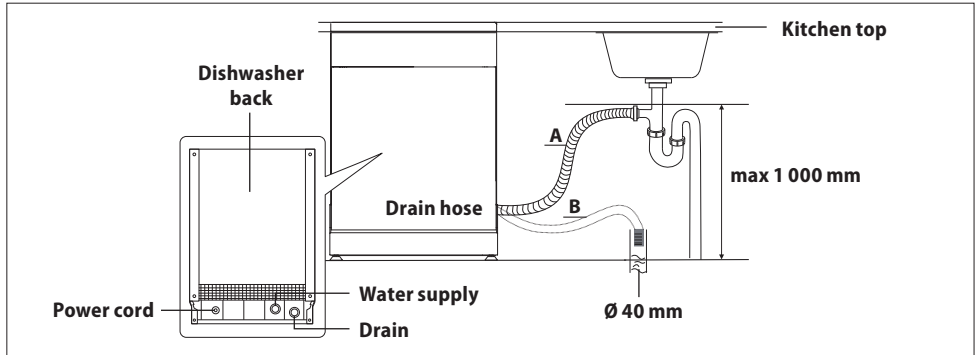

Fig. 19
5. Connect the drain hose according to Fig. 19.
The height of the waste pipe must be less than 1,000 mm (Fig. 19) and the drain hose should not be submerged in water. Secure the drain hose properly to prevent unwanted loosening from the waste pipe.